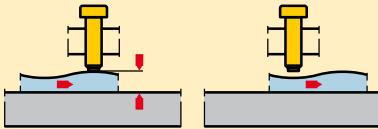

**Figure 5c**
**Figure 5c:** Shows how to locate a workpiece correctly. To avoid tilting the workpiece, the torque "M" transferred from the workpiece (5) to the body to be machined (6) must be balanced by an appropriate counter-torque. This counter-torque is created by the clamping force "F."